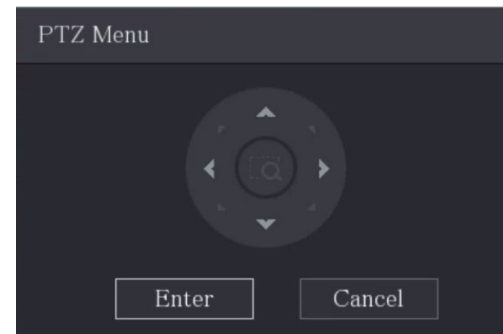

Figure 3-2
Step 2 Click  to open PTZ Control Panel then click  to open OSD. Use the up and down buttons to select menu item and the left and right to change parameter values. Click Enter to confirm. See Figure 3-2.